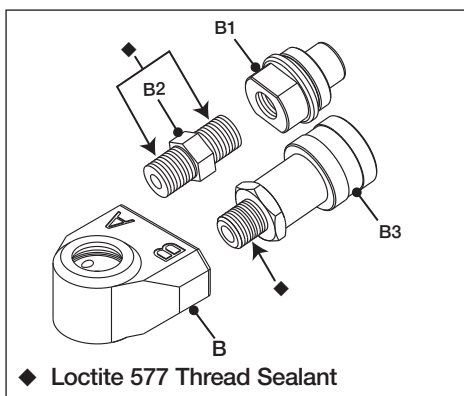

Fig. 25
Refer to Fig. 21 and Fig. 25 for swivel components.
- Apply Loctite 577 sealant to threads on female coupling (B3) and adapter (B2). See (◆) in Figure 25 for locations.